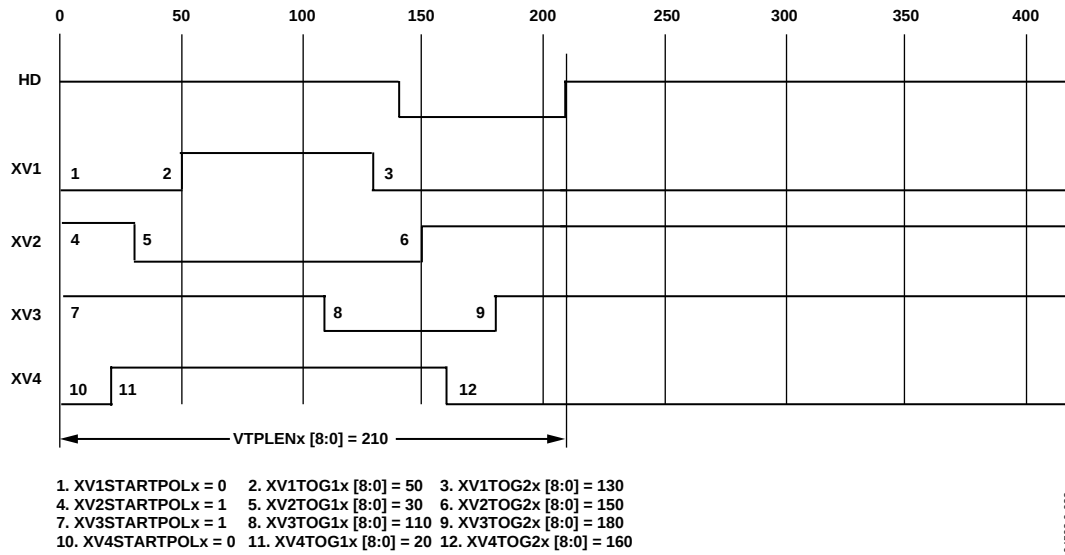
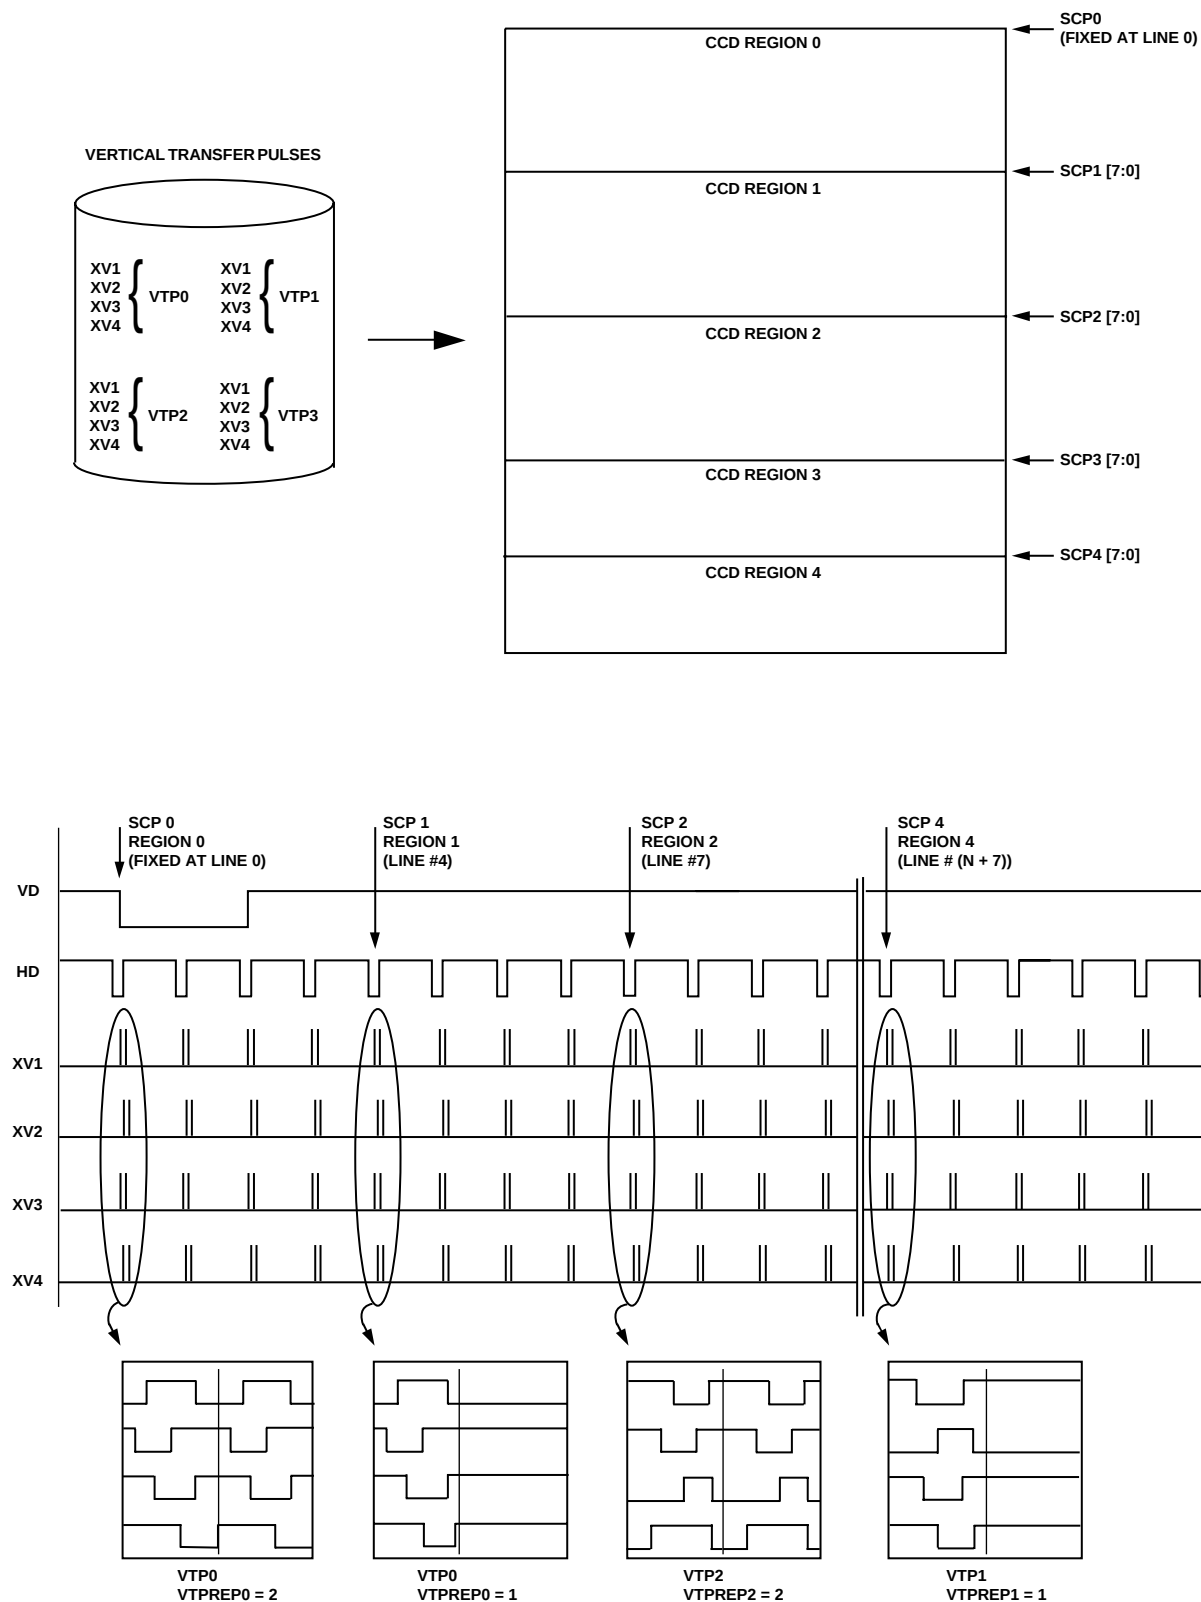

Figure 32. Step 1: Create Individual Vertical Pulses for VTP0, VTP1, VTP2, and VTP3 Patterns.
Figure 34. Steps 3 and 4: An Example of Building an Entire Field Readout by Assigning Sequences to Multiple CCD Regions
Figure 32 through Figure 34 provide an overview of how the vertical timing is generated in four basic steps.
Step 1: Create the individual pulses for patterns VTP0, VTP1, VTP2, and VTP3 (see Figure 32).
The registers shown in Table 22 are used to generate the individual vertical timing pulses, as shown in Figure 32.
Step 3: Output Vertical Sequences into CCD Regions (see Figure 34).
Step 4: Combining CCD Regions (see Figure 34).
The individual CCD regions are combined into a complete field readout by using sequence change position (SCP_x) pointers as described in Table 23. Figure 34 shows how each field is divided into multiple regions. This allows the user to change vertical timing during various stages of the image readout. The boundaries of each region are defined by the sequence change position (SCP). Each SCP is a 8-bit value representing the line number boundary region. A total of four SCPs allow up to five different region areas in the field to be defined. The first SCP0 is always hard-coded to line 0, and the remaining four SCPs are register programmable.
The special vertical sweep mode operation is only output in CCD Region 0 and CCD Region 3 (see Figure 34), as shown in Figure 37 and Figure 38. The SVREP_MODE register located at